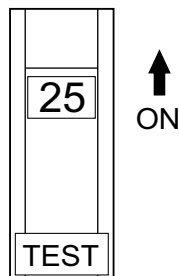

Figure 42. AC Circuit Breaker ON (GFCI Test)
3. Place the AC circuit breaker (Figure 42) in the **ON** position.